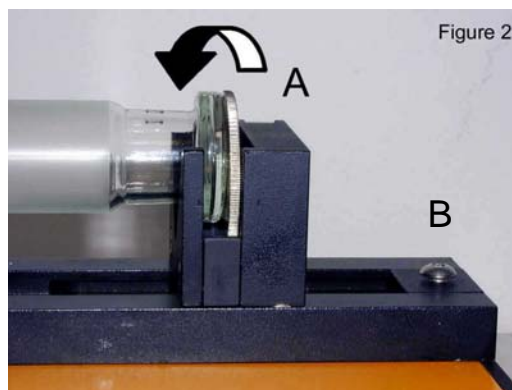

Figure 2
- Select the direction by pressing the direction button ◀ ▶ and press the ON/OFF button to bring the pusher block into such a position that the extremity of the syringe plunger can be placed into the pusher between the V-piece and the fixing disc (figure 2). You can use any convenient speed setting to displace the pusher. The maximal speed of the movement can be obtained by constantly pressing one of the direction buttons.
Keep the desired direction button pressed constantly for about 2 seconds. The pusher will move in the selected direction with maximal speed. This functions even when the ON/OFF button has not been activated. *The maximal filling position of the pusher can be blocked mechanically by a screw in the fixing dice (figure 2 B).*